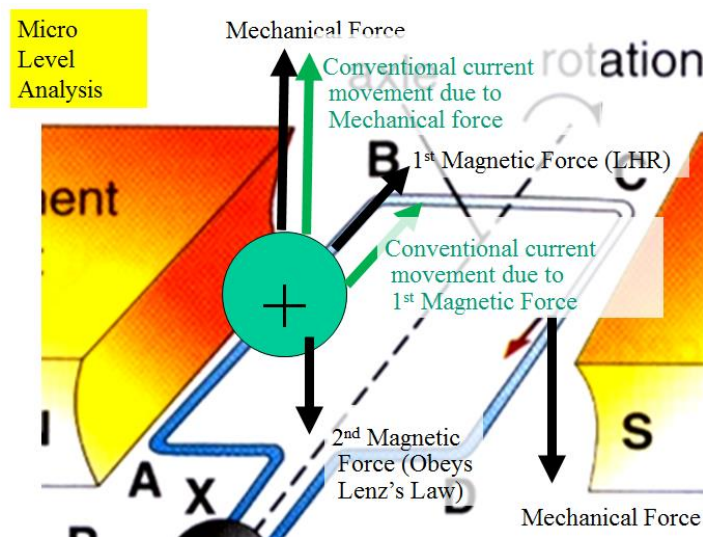

Figure 2.1: The 3 Forces and 2 conventional currents
- Orientate the two magnetic field pattern cards according to the set up Figure 2.1. Use superposition method to obtain the resultant magnetic force acting on the charge.
2.10. Aware that there are two conventional current(see Fig 2.1)